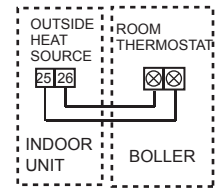

Fig.6-11
1. If the external heat source needs one switch signal to control the input situation, then directly connect the corresponding wire terminal of this machine with the corresponding terminals of the external heat source, as describing in Fig.6-11.